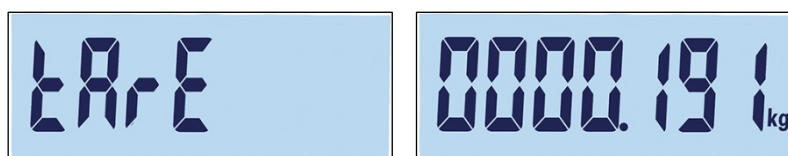

Figure 3-50: Positive Tolerance Label and Setting Screens
- Finally, a **tare** value can be set for the record (Figure 3-50). Press  to confirm the record and exit the record editing function.